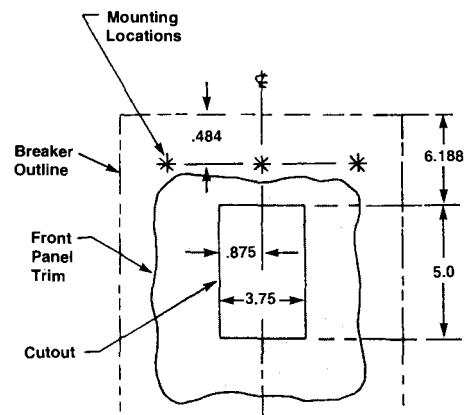

Fig. 6
- Make bus and/or cable connection to rear of mounting block studs using hex nuts (15) furnished to secure this connection.
- Align breaker with mounting blocks and force female tulip clips over male studs in mounting block until breaker base bottoms against mounting block. Secure breaker in place with $\frac{1}{4}$ -20 x $1\frac{1}{2}$ " long mounting screws (16), lockwashers (17) and flatwashers (18) furnished.
- If installation requires the use of front panel trim, provide cutout for breaker escutcheon as shown in Fig. 6.